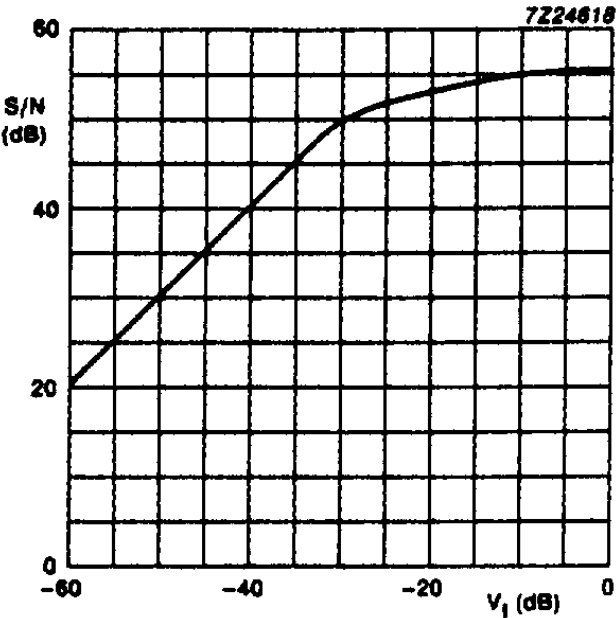

Fig.5 Signal-to noise ratio as a function of the input voltage (0 dB = 100 mV).
10. The test set-up and input conditions are given in Fig.5. The figures are measured at an input signal of 10 mV (RMS).